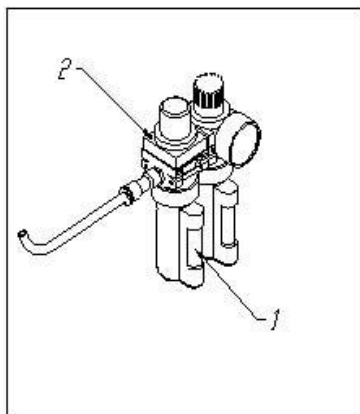

Fig. 5-1
- Use only SAE30 oil (Figure 5-1)